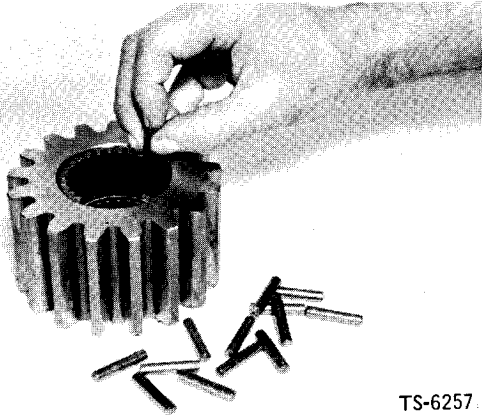

FIG. 152
1. Coat inside of planet pinion with chassis grease to retain pinion needle rollers. Each pinion contains a double row of needle rollers, with a spacer between rows. Install a row of 28 rollers, roller spacer and another row of 28 rollers in each pinion (Fig. 152).